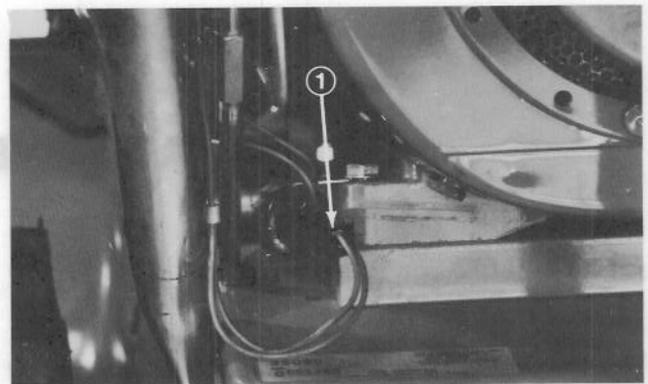

Figure 18
1. Plug handle wires firmly into plug on engine (Fig. 18).